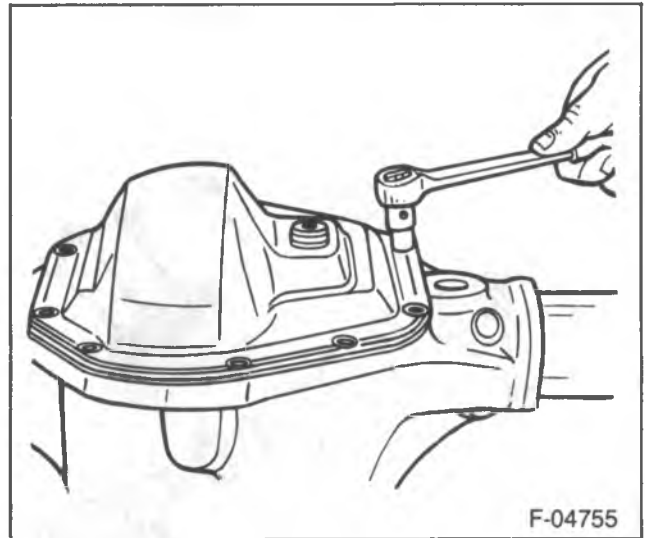

Figure 41—Installing the Axle Cover
3. Axle cover (14) to the housing (figure 41).